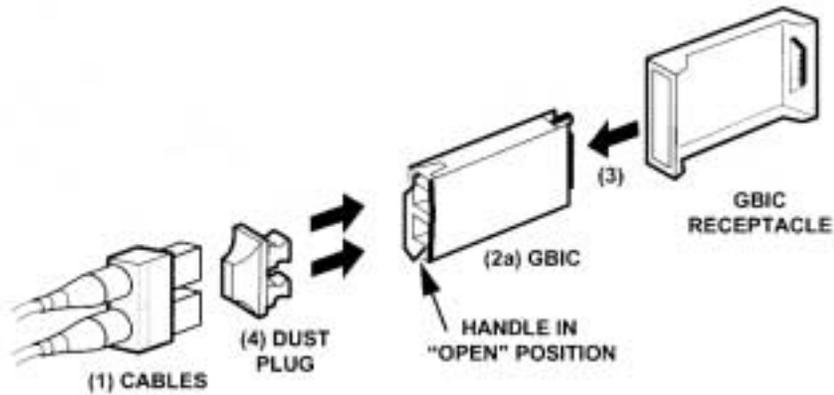

Figure 2-5. Removing the Optical GBIC Module
2. (a) If you are using an optical GBIC, flip the bar of the GBIC to the “OPEN” position and pull to remove. (See Figure 2-5. on page 10.)